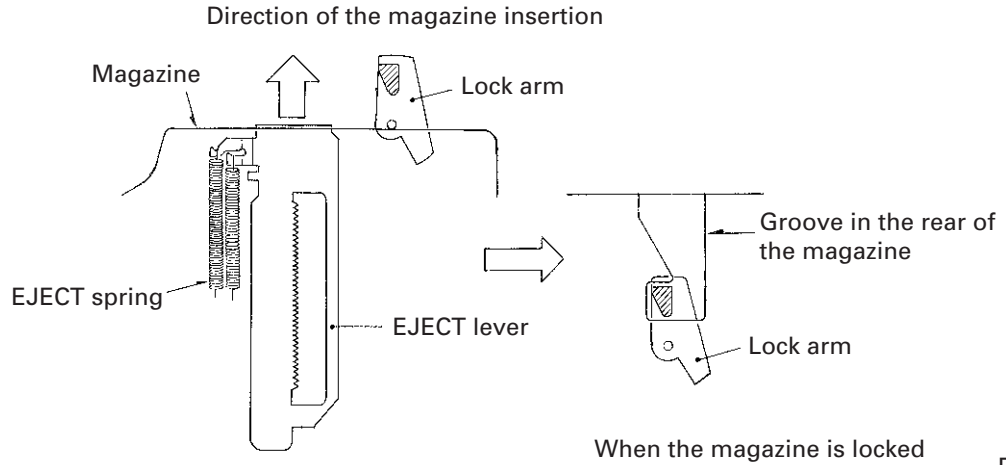

Fig. 30
1. When the magazine is inserted against the force of the EJECT lever spring, the lock arm comes in along the groove in the rear side of the magazine to lock (see Fig. 30).